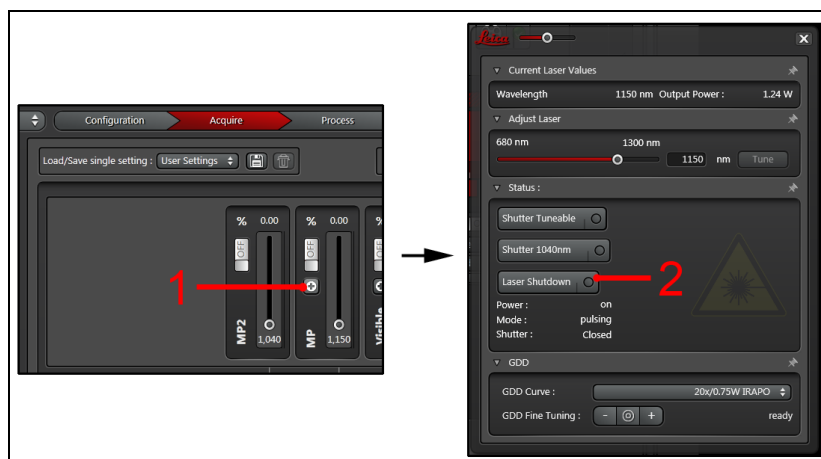
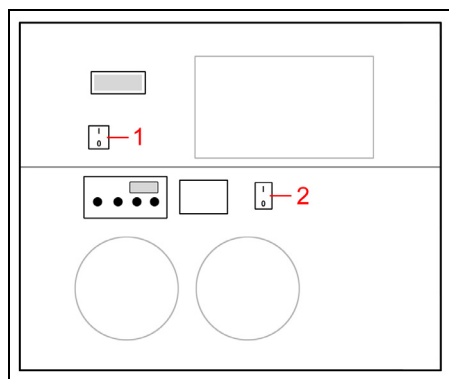

Figure 90: Laser shutdown for switching off the "InSight DeepSee laser"
Figure 91: Cooling and supply unit of the "InSight DeepSee" infrared laser
If you have no need for the "InSight DeepSee" infrared laser for a longer period of time, you can shut it off completely. To shut the "InSight DeepSee" off completely, call up the MP dialog (see **Figure 90, item 1**) and then click on the button **Laser shutdown** (**Figure 90, item 2**). In this case you have to deactivate the supply unit for the infrared laser (**Figure 91, item 1**) as well. After 15 minutes, you can also switch off the cooling for the infrared laser (**Figure 91, item 2**).